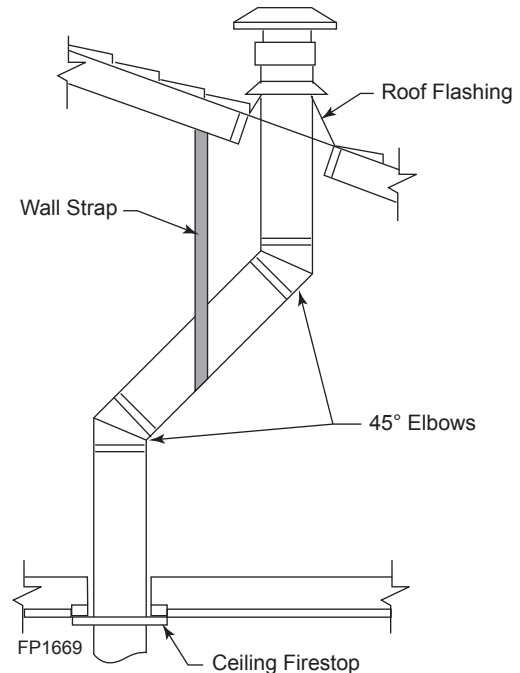

Figure 29 -
1. Determine the route your vertical venting will take. If ceiling joist, roof rafters or other framing will obstruct the venting system, consider an offset. *Figure 29* to avoid cutting load bearing members.